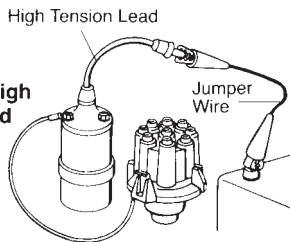

Figure 2
5. Remove the high tension lead from the center of the distributor and connect to ground as shown in Figure 2. To disable electronic ignition systems, disconnect the electronic ignition module or remove the primary battery terminal from the ignition coil. On GM HEI V-8 and V-6, disconnect the primary lead from the distributor cap (Figure 3).